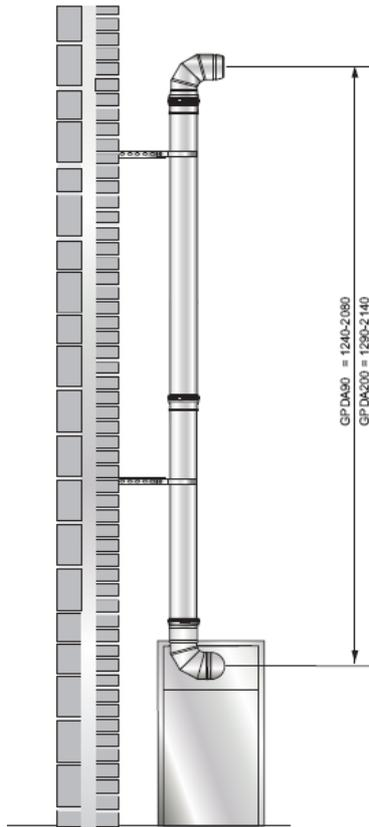

Figure 2.
2. On the Outdoor module the terminal may need to be rotated 180° so the plume kit can be mounted closer to the wall (see figure 2).